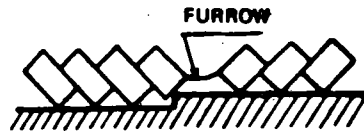

Fig. 4
- 2) When the ploughing of the even-numbered ridge is complete, reduce the ploughing depth in the last two runs to leave a shallow furrow (Fig. 4).